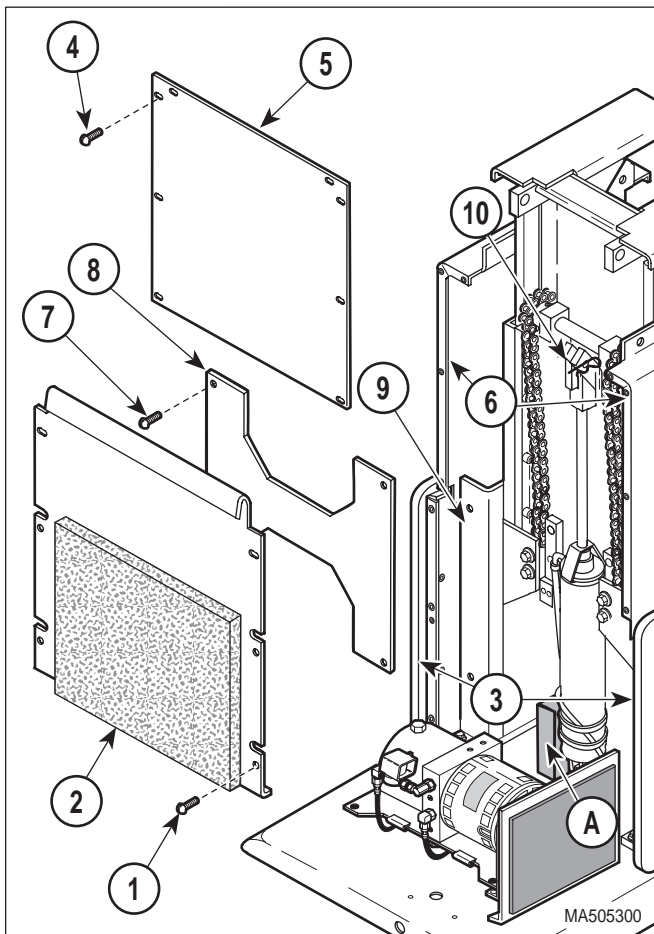

Figure 4-12. Base Cylinder Access
- (1) Unplug table power cord from outlet.
- (2) Remove motor cover assembly (Refer to para 4.2).
- (3) Remove four screws (1, Figure 4-12) and back outer shroud (2) from left and right hand outer shrouds (3).
- (4) Remove eight screws (4) and back inner shroud (5) from left and right hand inner shrouds (6).
Make sure table top is properly secured from lowering or tipping over when base cylinder is disconnected from table top. Clevis pin (2, Figure 4-12) should not have any weight on it if table top is supported properly. Failure to have table top properly secured could result in serious personal injury or death.
- (2) Connect return hose (7) and power hose (8) to base cylinder (3) and secure with cable ties.
- (3) Install base cylinder (3) on brackets (A) and secure with clevis pins (2 and 5) and hitch pin clips (1 and 4).
- (4) Connect base cylinder electrical leads to terminal block. (Refer to para 5.1, Electrical Wiring Diagram and Schematics).
- (5) Plug table power cord into outlet.
- (6) Raise BASE UP function slightly and remove block (A, Figure 4-12) from under middle slide of base slide assembly (9) or remove supports from under table top.
- (7) Lower BASE DOWN function all the way down.
- (9) Raise BASE UP function up until cylinder rod (1) is extended halfway.
- (10) Place a wrench on adjusting seats (C) of cylinder rod (1) and use it to rotate cylinder rod to adjust clevis (D) up or down as necessary.
- (11) Repeat steps 11 thru 15 until there is a 1/16 to 1/8 inch (1.6 to 3.2 mm) gap between inner member weldment (A) and middle slide (B) of base slide assembly when the BASE DOWN function is completely lowered.
- (12) Install brace (8, Figure 4-12) on base slide assembly (9) and secure with four screws (7).